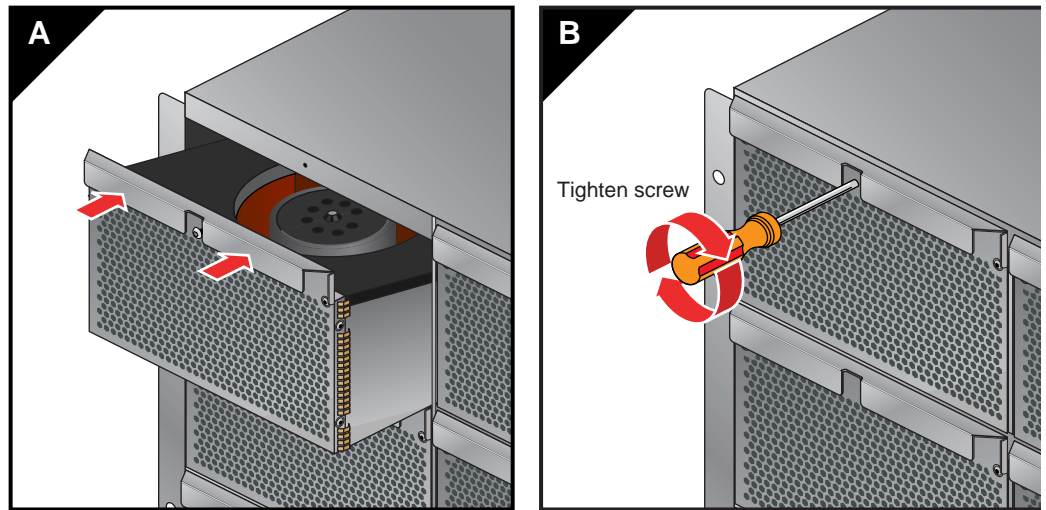

Figure 6-7 Replacing an IRU Fan
3. Slide a new blower assembly completely into the open slot, see Figure 6-7.